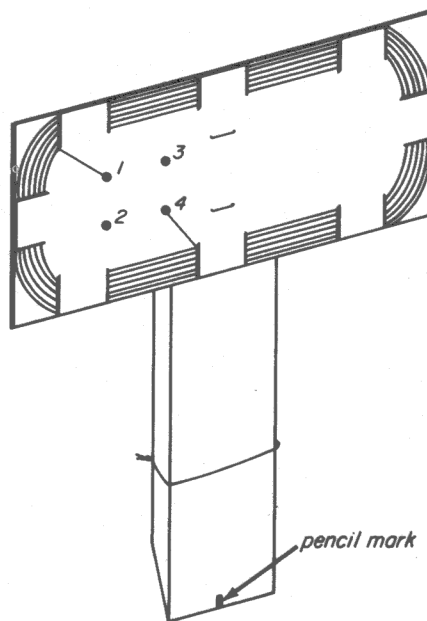

Fig. 32-12
Step 4. Pencil mark the center of the base of the cardboard stand upon which your loop is mounted as shown in Fig. 32-12.